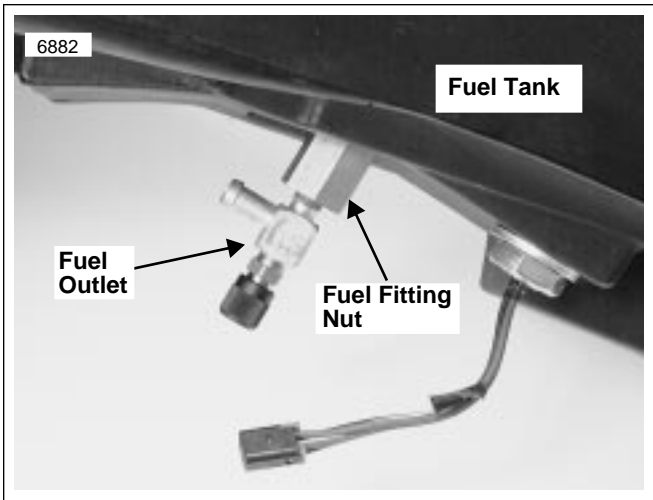

Figure 1. Fuel Outlet Fitting
4. See Figure 1. Rotate the fuel outlet approximately 180° by tightening the fuel outlet into the fuel fitting nut, while securely holding the nut. The fitting should point toward the rear of the motorcycle (opposite of the way shown).
9. See Figure 1. Rotate the fuel outlet approximately 180° by tightening the fuel outlet into the fuel fitting nut, while securely holding the nut. The fitting should point toward the rear of the motorcycle (opposite of the way shown).